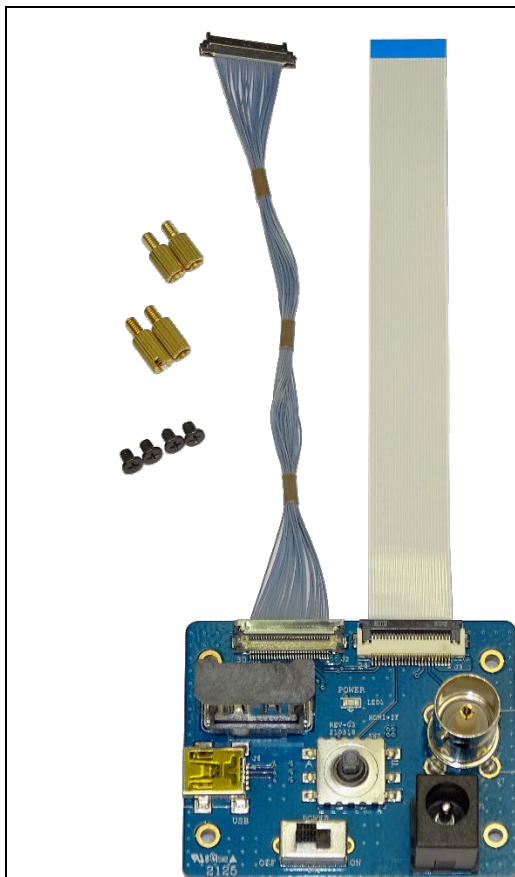

Figure 2. Harrier 18x HDMI 4K Camera Evaluation Board.
- Harrier 18x HDMI 4K Camera Evaluation Board (Figure 2)
- 30-way micro coax cable (KEL cable; Figure 2)
- 24-way FFC cable (Figure 2)
- 4x mounting pillars and 4x screws (Figure 2)